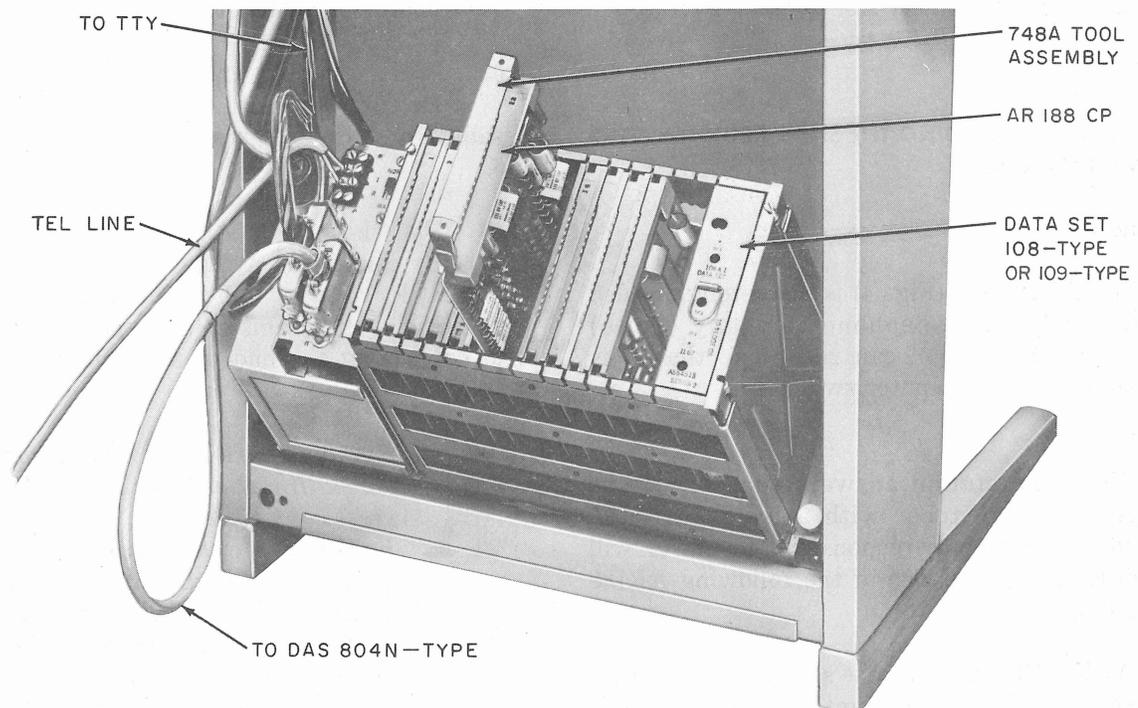

Fig. 1—Model 33 ASR TTY—Rear View With DAS 820G1 in the Maintenance Position
2.01 Access to DAS 820G-type, DAS 820J-type, and data set 108- or 109-type is obtained by removing the rear panel of the TTY stand. To facilitate ease of maintenance, the DAS can be tilted outward into a maintenance position (Fig. 1). This is accomplished as follows:
- (1) Rotate the latch in a counterclockwise direction. This allows the DAS to pivot on the 91A bracket.
- (2) Using both hands, gently tilt the DAS toward the rear of the station as shown in Fig. 1.